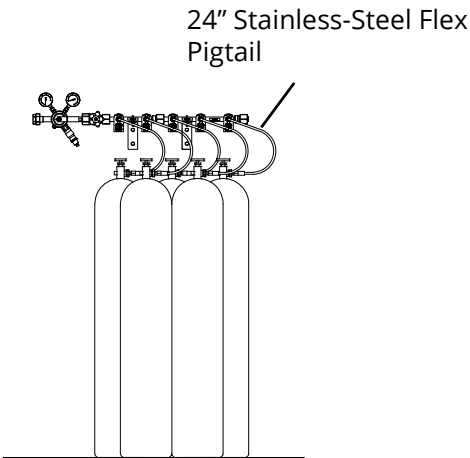

Figure 14
3. Position gas cylinders as shown in Figures 14 and 16. Secure each cylinder to wall or floor stand with chains or straps.